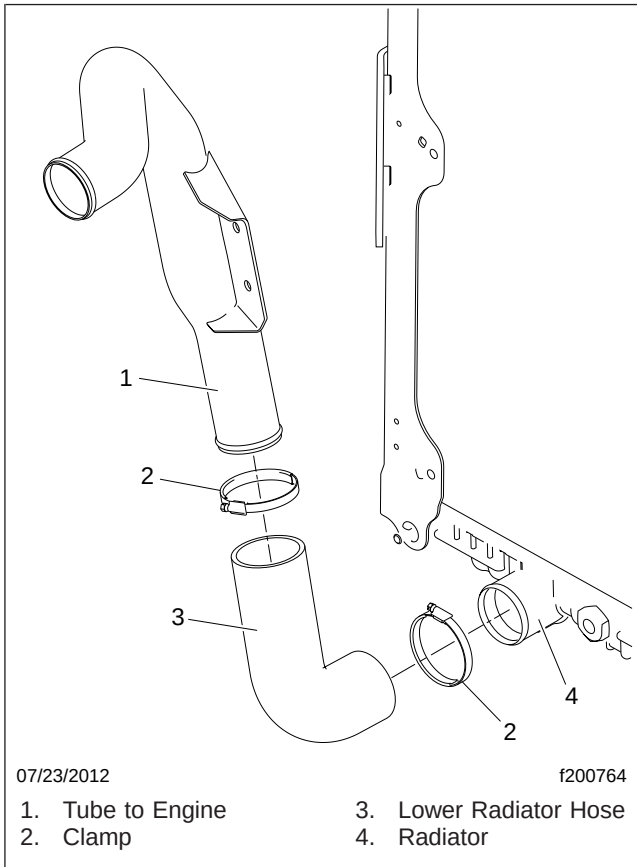

Fig. 11, Lower Radiator Hose Installation
16. Disconnect the lower radiator hose from the radiator. See Fig. 11.